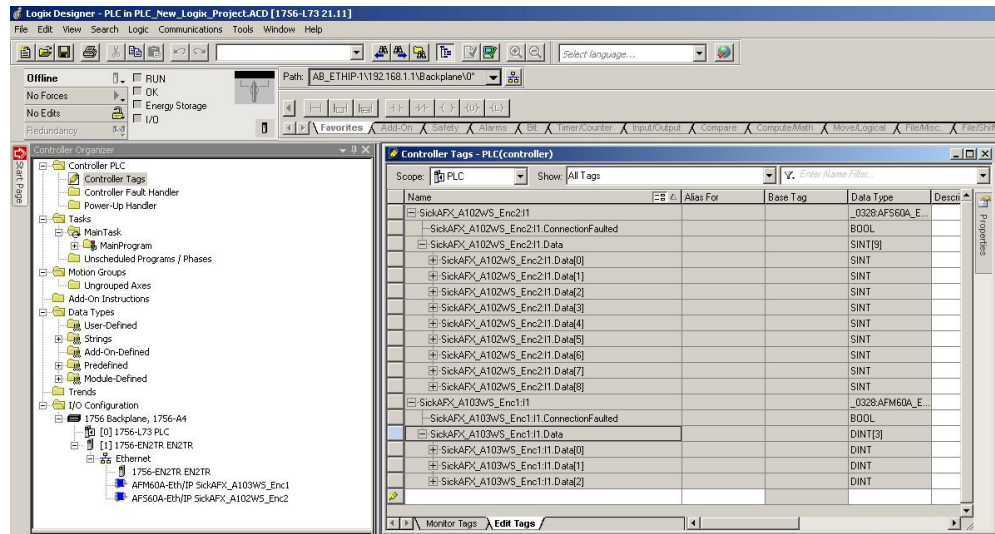

Figure 43: Correctly configured project with two encoder modules
- ▶ Only click **OK** once all configuration steps for the import have been completed. If you inadvertently click OK, then you must restart the import as in Figure 43 on page 60.